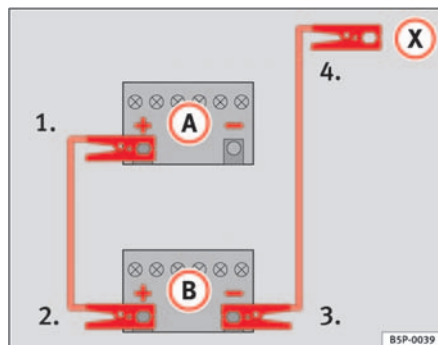

Fig. 198 How to connect the jump leads
In $\Rightarrow$ fig. 198, the flat battery is (A) and the charged battery (B).
- 1. Connect one end of the red jump lead to the positive $\Rightarrow$ fig. 198 (+) terminal of the vehicle with the flat battery $\Rightarrow$ ⚠.
- 4. Connect the other end of the black jump lead (X) to a solid metal component which is bolted on to the engine block, or onto the engine block itself of the vehicle with the flat battery. Do not connect it to a point near the battery $\Rightarrow$ ⚠.